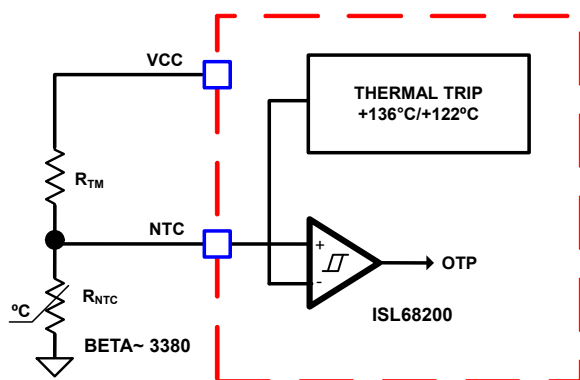
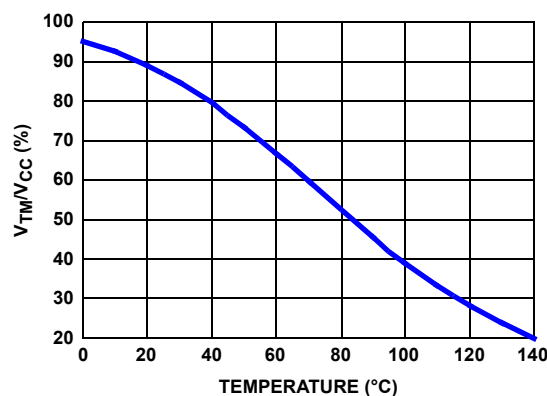

FIGURE 16. BLOCK DIAGRAM OF THERMAL MONITORING AND PROTECTION
FIGURE 18. THE RATIO OF TM VOLTAGE TO NTC TEMPERATURE WITH RECOMMENDED PART
The thermal monitoring function block diagram is shown in Figure 16 on page 18. Place one NTC resistor close to the respective power stage of the voltage regulator VR to sense the operational temperature. Pull-up resistors are needed to form the voltage dividers for the NTC pin. As the temperature of the power stage increases, the NTC resistance reduces, resulting in the reduced voltage at the NTC pin. Figure 18 on page 18 shows the TM voltage over the temperature for a typical design with a recommended 10kΩ NTC (P/N: NCP15XH103J03RC from Murata, $\beta = 3380$) and 1.54kΩ resistor R_{TM} . It is recommended to use these resistors for accurate temperature compensation because the internal thermal digital code is based on these two components. If a different value is used, the temperature coefficient must be close to 3380 and R_{TM} must be scaled accordingly. For instance, if NTC = 20kΩ ($\beta = 3380$), then R_{TM} should be $20\text{k}\Omega/10\text{k}\Omega \cdot 1.54\text{k}\Omega = 3.08\text{k}\Omega$.
to the NTC temperature of the practical design should be similar to that in Figure 18.
1. Properly choose the voltage divider for the NTC pin to match the NTC voltage vs temperature curve with the recommended curve in Figure 18 on page 18.
Figure 16 shows a comparator with hysteresis that compares the NTC pin voltage to the threshold set. When the NTC pin voltage is lower than 22.31% of VCC voltage (typically +136 °C), it triggers Over-Temperature Protection (OTP) and shuts down ISL68200 operation. When the NTC pin voltage is above 27.79% of VCC voltage (typically +122.4 °C), the ISL68200 resumes normal operation. When an OTP fault is declared, the controller forces the LGATE and UGATE gate-driver outputs low.